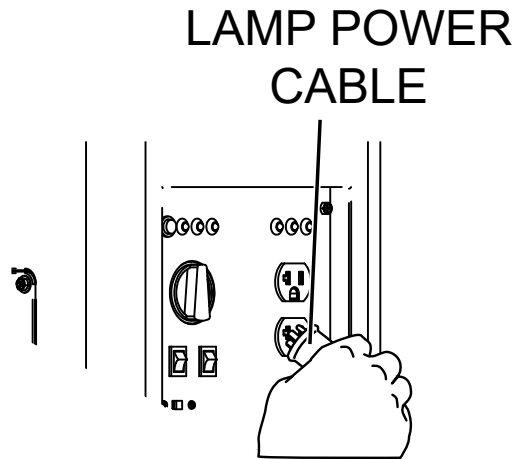

Figure 24. Connecting to Generator
1. Connect the power cable to the AC power outlet on the generator (Figure 24).